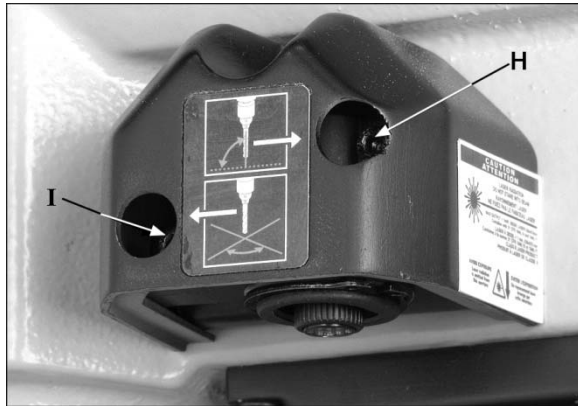

Figure 23
4. Use the socket head screw (H, Figure 23) located toward front of laser assembly, to adjust verticality of laser line. Turn screw as needed (2.5mm hex wrench), and move board side-to-side as needed, until laser light (E) aligns with board marking (B).
7. Use the socket head screw (I, Figure 23) located toward back of laser assembly, to adjust the cross hair. Turn screw as needed until laser line (M) crosses perforation (L).